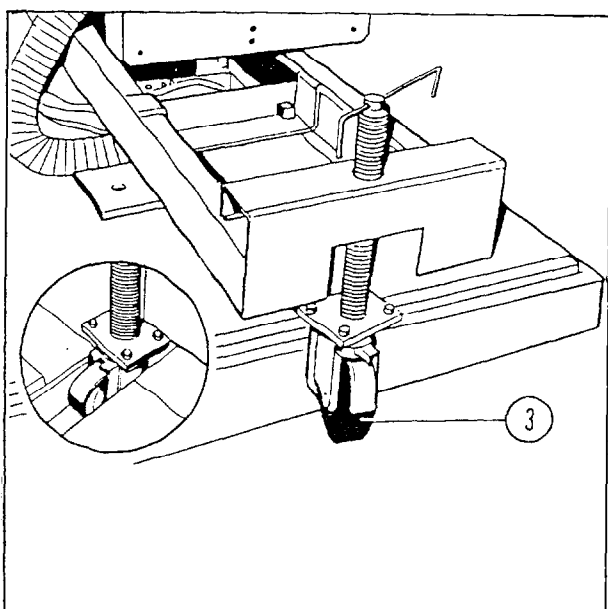

Fig. 3
- ◀ • Attach the fork-type part of the transport trolley with the single transport roller (3) to the unit according to Fig.3; align the transport roller (3) in the recess according to the figure.